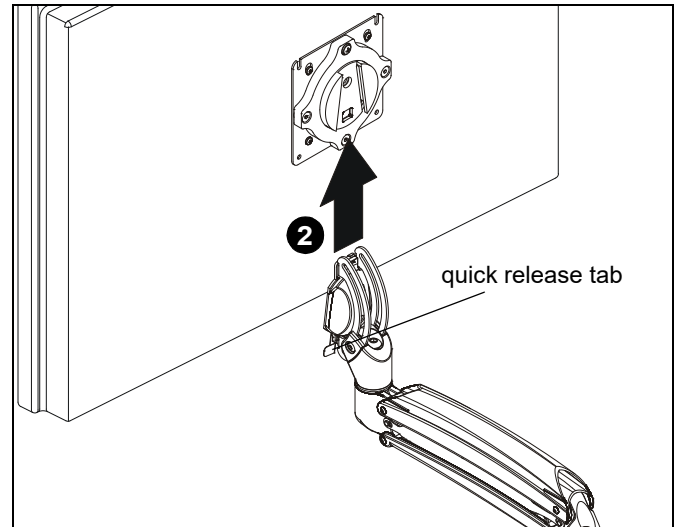

Figure 19
**WARNING:** Only remove display from mount when the display can be lifted up from the mount! DO NOT remove display unless the display is in the upright position! (See Figure 19)
2. Remove quick release faceplate from mount by pulling quick release lever and sliding faceplate off mount. (See Figure 19)